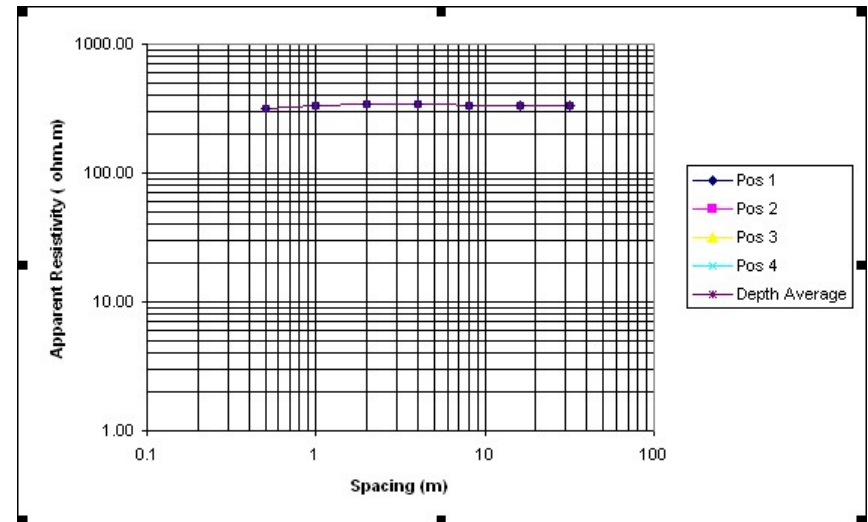
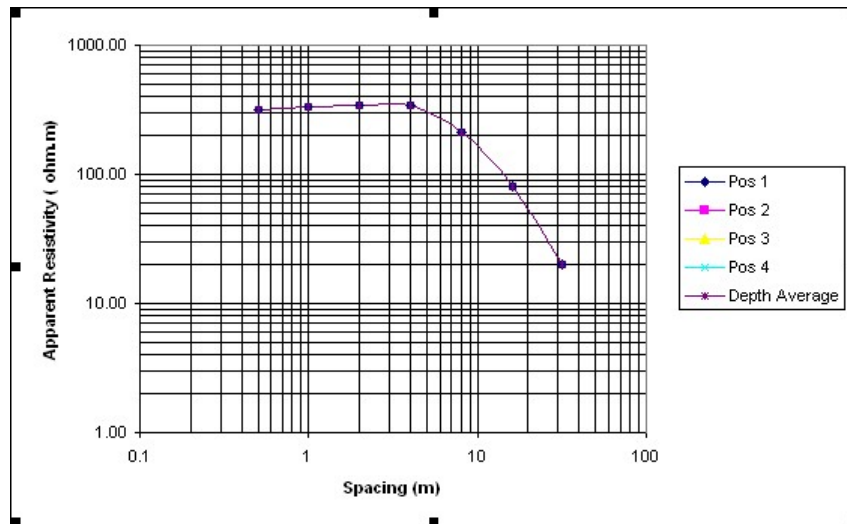

Figure: 2 – Homogenous Soil
Figure: 3 – Two Layer
- If possible, enter the data into the electronic copy of the Test Report SP0522C01. Analyse the graph of apparent resistivity vs spacing. This graph will tell you if you have gone to a large enough spacing. Refer Figure 2, this suggests a homogenous soil approximately 350Ωm to a depth of at 64m. No further testing would be required. Figure 3 however shows a change in layer, but further spacing would be required to try and determine the resistivity of the lower layer. **Note:** This is not as critical if testing for upper layer resistivity for step and touch voltage criteria.
A quick assessment of the layering of the soil model can be obtained from Resistivity-Depth graphs as shown in Figures 2 and 3. However, this is not always the preferred method for determining resistivity value.